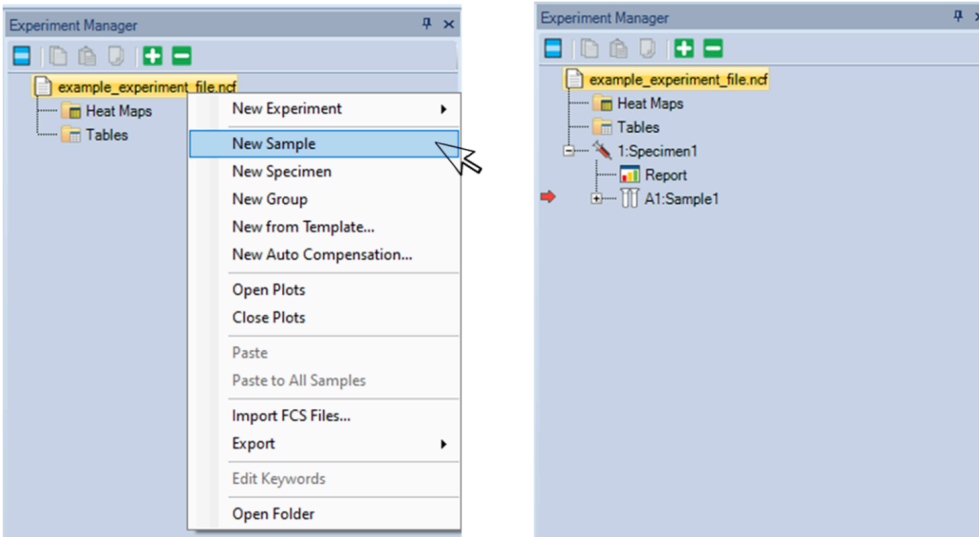

Figure 8: creation of new elements: sample, specimen or group, from the “experiment manager”.
Right-click on the first line (file_name.ncf) in the "**Experiment Manager**" window, then select "**New Specimen**" (**Fig. 8**). If the "**Experiment Manager**" window is not visible, go to the "View" tab at the top and click on "Experiment Manager" to display it.
1. Right-click on the first line (file_name.ncf) in the “**Experiment Manager**” window, then select “New Sample” (similar to creating a new sample or group) (Fig.8).